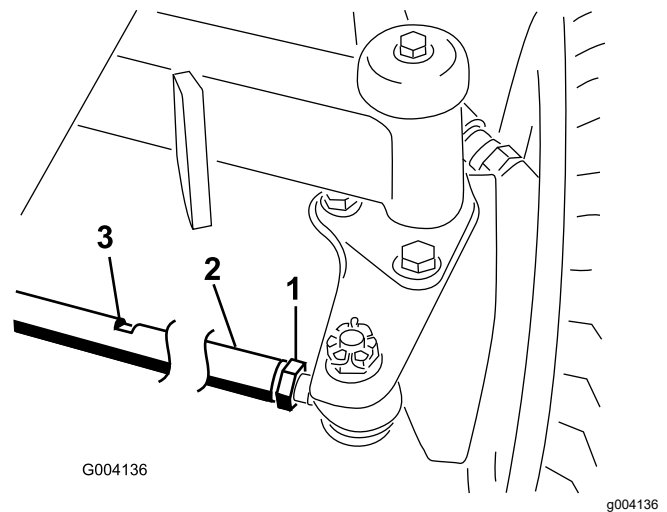

Figure 91
1. Loosen the jam nut on each end of the tie rod (Figure 91).